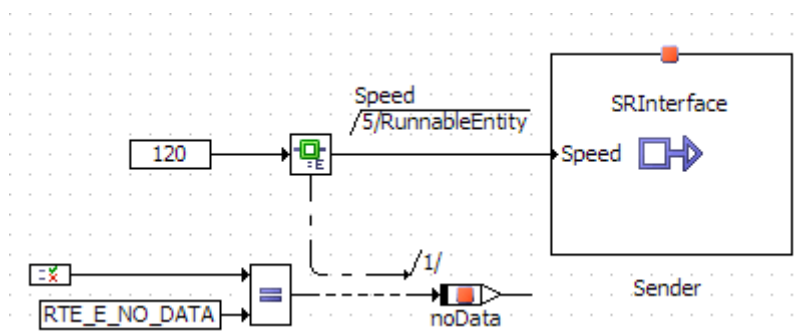

Figure 63: Sending a value 120 to a sender port using explicit communication with status
- Connect literal, RTE status block, operator and variable as shown in Figure 63.